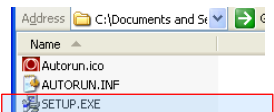

Fig. 4.4
- 4.4 **SETUP.exe** file shown in Fig. 4.4 will be created. Copy this file to a USB flash memory or CD, then insert it to a PC to which the software will be installed.